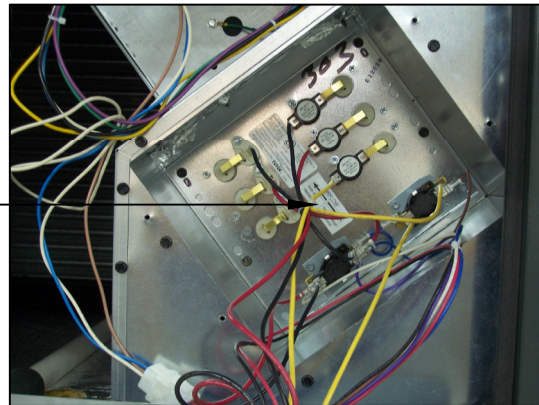

Fig. 6
- 9.) Install the heater with screws. Note the air flow direction label located on the heater plate. (Fig. 6). Orientate the heater to match air flow direction on package unit blower assembly.